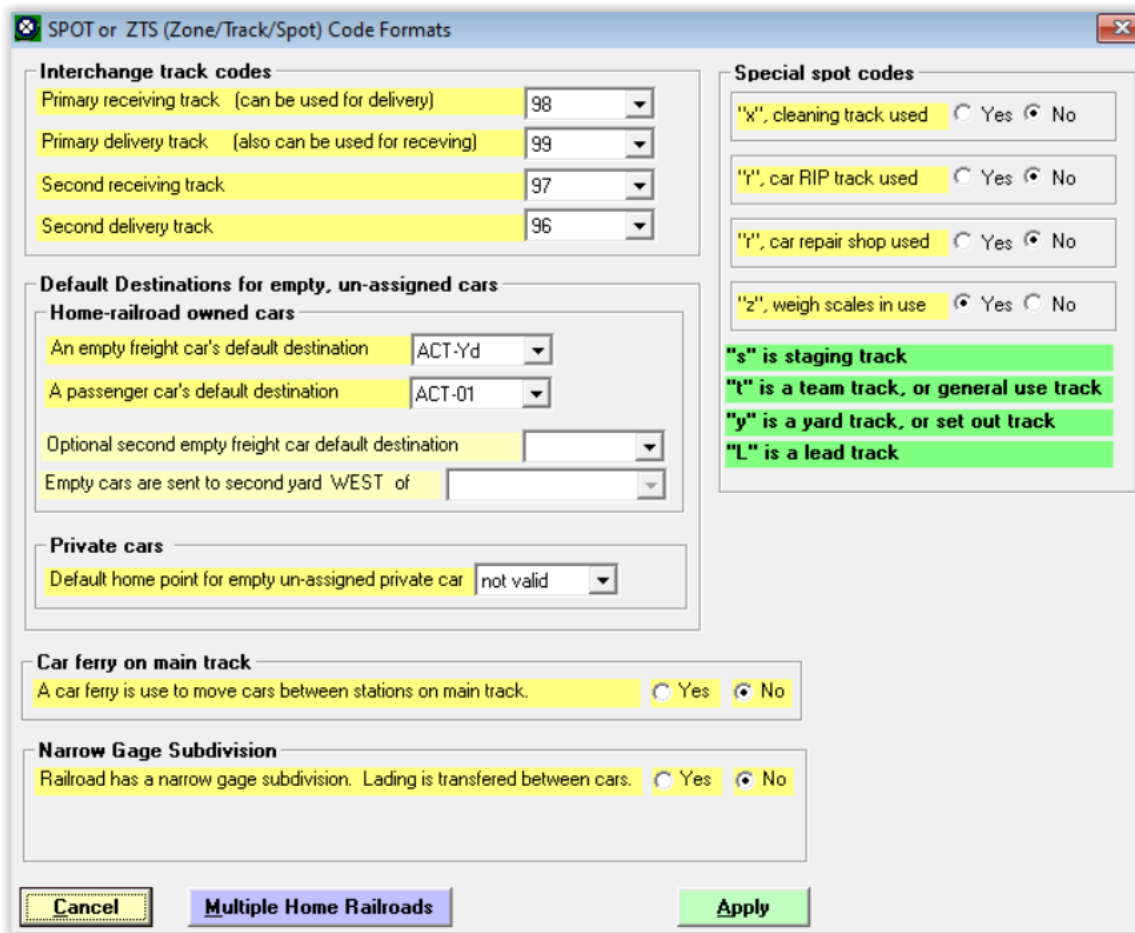

Figure 7-3a
6. Once completing the changes your window should match Figure 7-3a. For now, we can ignore the remainder of the items in this window. Click on "Apply" to finalize the changes. The "SPOT or ZTS (Zone/Track/Spot) Code Formats" window will close and we can continue.
**New Figure 7-3a**
After new Step 6 Insert figure 7-3a as follows: